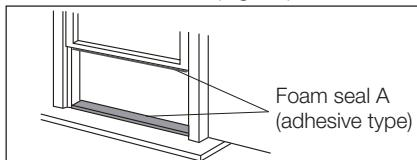

Fig. 12
1. Cut the foam seals(adhesive type) to the proper lengths and attach them to the window and stool. (Fig. 12)